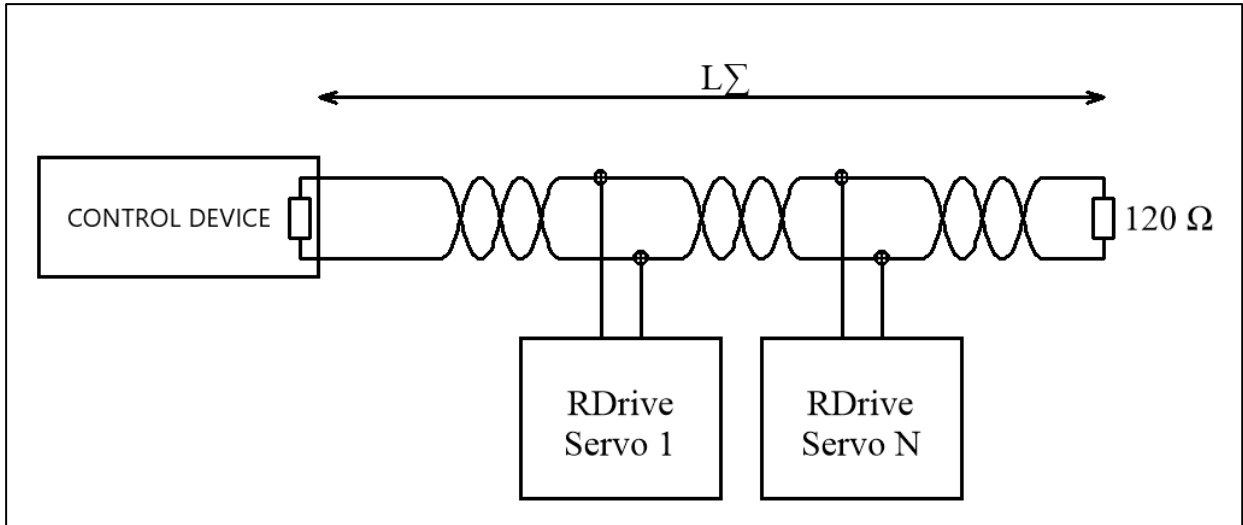

Figure 4-1: CAN connection to control servos based on CANOpen
- In case servo control is based on the CANOpen protocol stack, provide a CAN bus connection of the configuration as shown in **Figure 4-1**.
The connection is in accordance with the diagram as shown in **Figure 4-1**. Connect the CAN cables on the RDrive input flange to the corresponding twisted pair wires: the brown one to CANHIGH, and the blue one — to CANLOW.
To enable control based on CANOpen, connect RDrive servomotors in accordance with **Figure 4-1**. For a detailed description of the CANOpen communication interface implemented for RDrive servos and related application cases (including servo initialization), refer to the CANOpen Communication Guide.